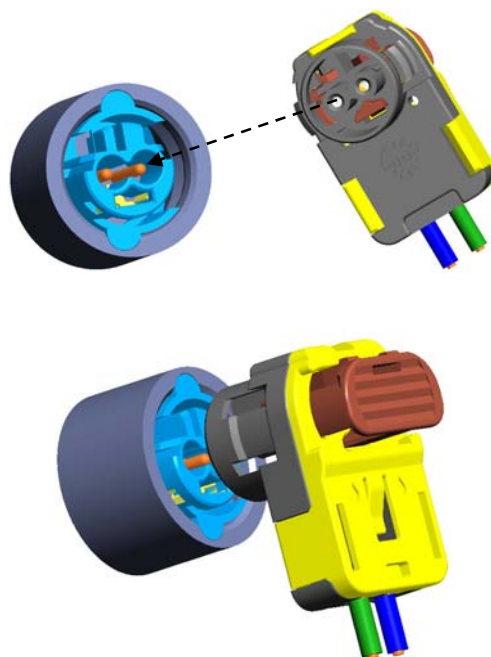

Figure 2
1. Before insertion, align the connector with the contact pins and the bottom face keyway. If the connector is installed 180 degrees out of position it will not completely lock and it can be extracted and re-installed correctly. See Figure2.